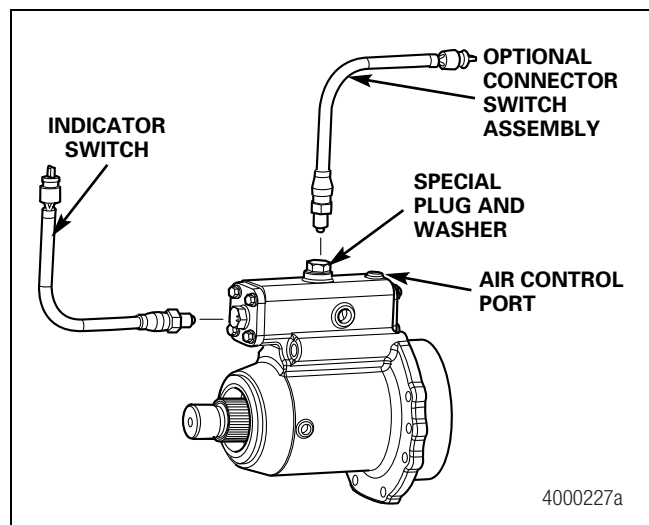

Figure 7.13
9. Install the indicator switch. Tighten the switch to 25-30 lb-ft (34-40 N•m). Figure 7.13.
- **If a switch is not used:** Install the special plug and washer used to cap the access hole. Tighten the plug to 25-30 lb-ft (34-40 N•m). Figure 7.13.